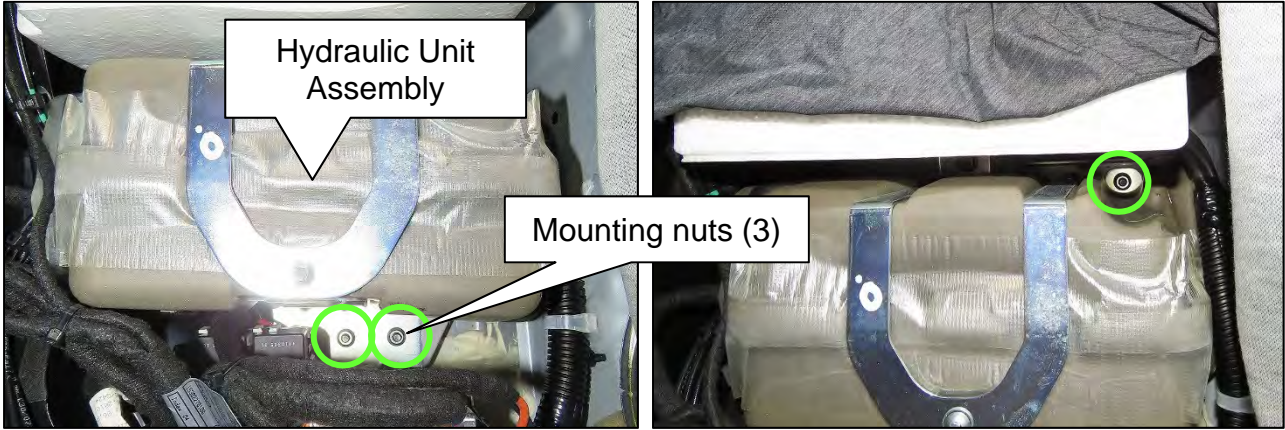

Figure 148
158. Remove the three (3) mounting nuts that retain the soft top Hydraulic Unit Assembly (Figure 148).